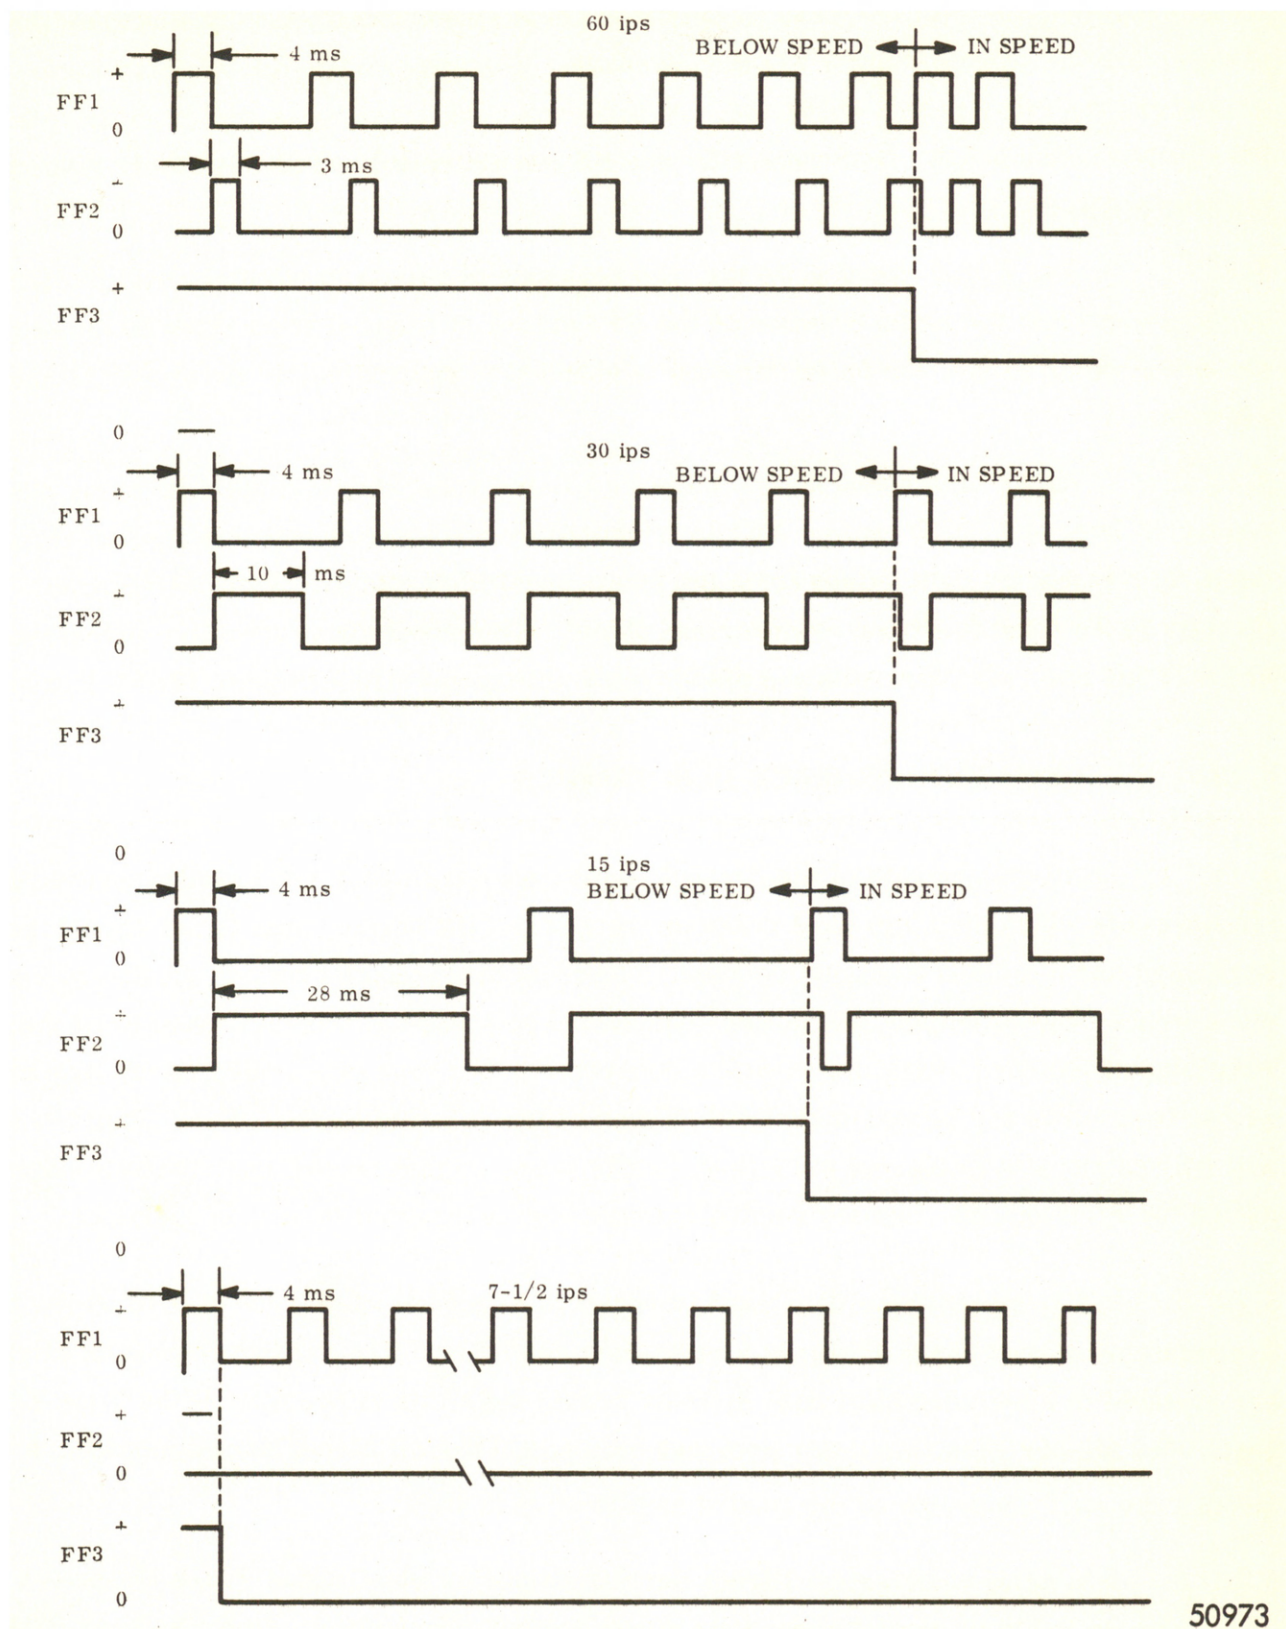

Figure 5-4 Three-Speed Sensing Pulse Train Timing
5.39 As the tape motion increases for 60 ips operation, the voltage change across series resistor R1 causes FF1 to produce a train of four-millisecond pulses, one for each pulse of light striking the photo-sensitive crystal. The timing of the pulse trains produced by the multivibrators, when the tape speed is either below or in the desired speed, is illustrated in Figure 5-4. The pulse from FF1 is fed to CR4, one half of the "AND" gate. At this point, there is no output from FF2, so that the "AND" gate is closed. When FF1 resets, it triggers FF2 to produce a three-millisecond pulse. The "AND" gate remains closed since there is no pulse from FF1.